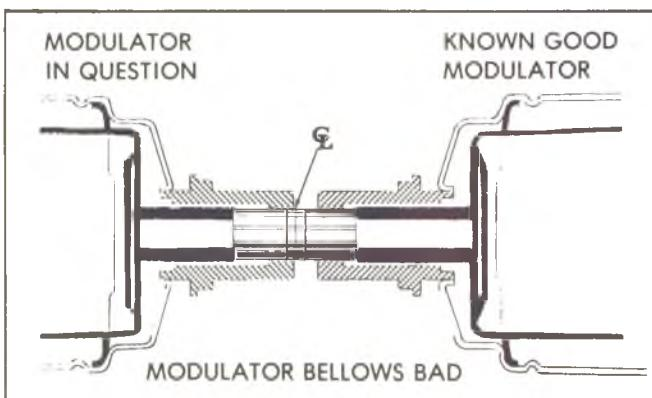

Fig. 37T—Modulator Bellows - Bad
- Install the modulator in question on the opposite end of the gauge. (Fig. 37T).